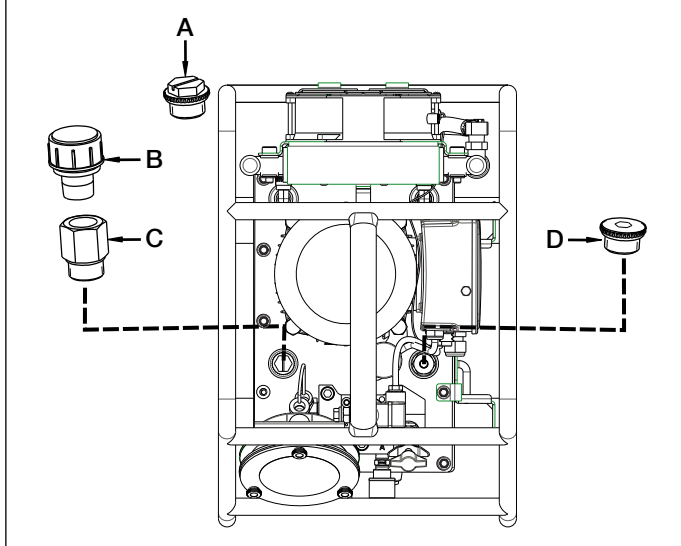
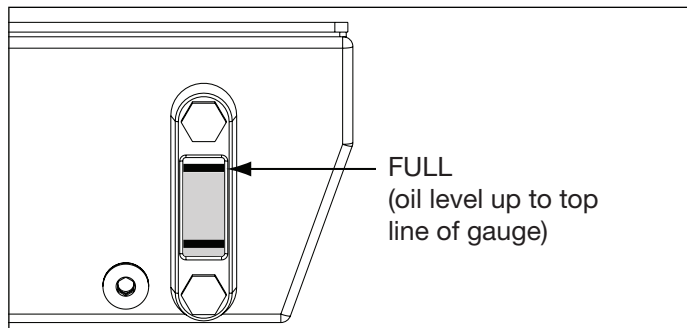

Figure 1, Reservoir Breather and Oil Fill Plug
Figure 2, Oil Sight Gauge
See Figure 1. A shipping plug (A) is installed in the breather port on the top of the reservoir. Before using the pump, replace the shipping plug (A) with the reservoir breather (B) and adapter fitting (C).
Check the pump oil level prior to start-up. The reservoir is full when the oil level is up to the top line of the sight gauge as shown in Figure 2. If necessary, add oil by removing the oil fill plug (D) from the filler tube as shown in Figure 1. Use Enerpac HF oil (ISO Grade 32).